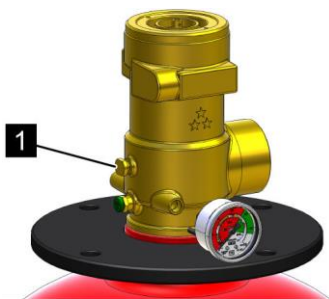

Fig. 183: Control connection
6. ➤ Check the valves to see whether all unused control connections (Fig. 183/1) are closed off with blind plugs and the blind plugs are screwed in all the way. Cap unused control connections with blind plugs for control connection G1/8 (part no. 888032).